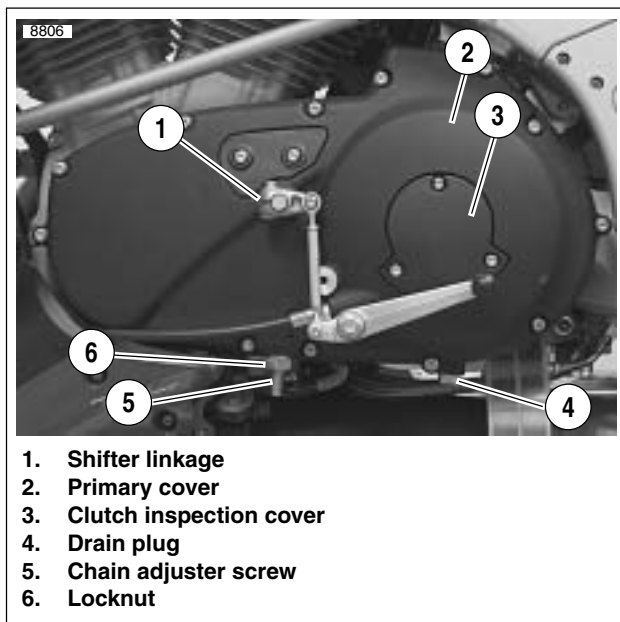

Figure 6-2. Removing Primary Cover
4. See Figure 6-2. Place a drain pan under the engine/primary area. Remove drain plug (4) and drain lubricant from primary drive.
7. See Figure 6-2. Loosen locknut (6). Turn chain adjuster screw (5) counterclockwise to remove tension on primary chain.
9. See Figure 6-2. Remove clutch inspection cover (3).